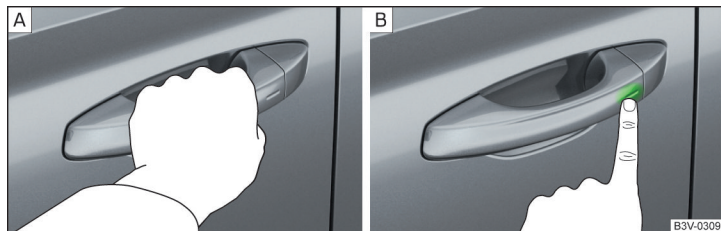

Fig. 50 Vehicle unlocking / vehicle locking
- Grip the door handle to **unlock** the vehicle » Fig. 50 - A.
- Touch the sensor on the door handle with your finger to **lock** » Fig. 50 - B the vehicle.
- › Within 5 s, touch the sensor on the door handle with your finger » Fig. 50 on page 58 - [B]. Deactivation is confirmed by a single flash of the direction indicators.